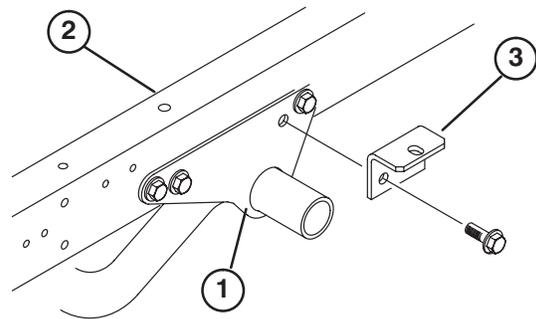

Figure 4
- Remove (2) flange head capscrews and flange locknuts securing rear of each engine frame mounting bracket to each side of vehicle frame (Fig. 4).
- Loosely secure an attachment bracket to each engine frame mounting bracket and vehicle frame with (2) flange head capscrews and flange locknuts previously removed (Fig. 4).